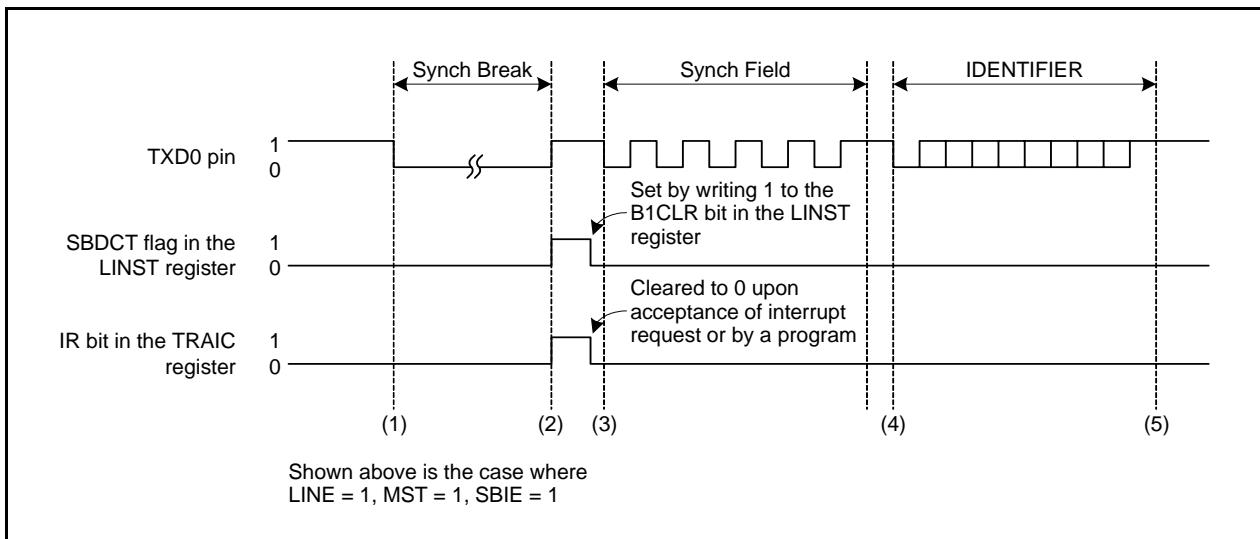
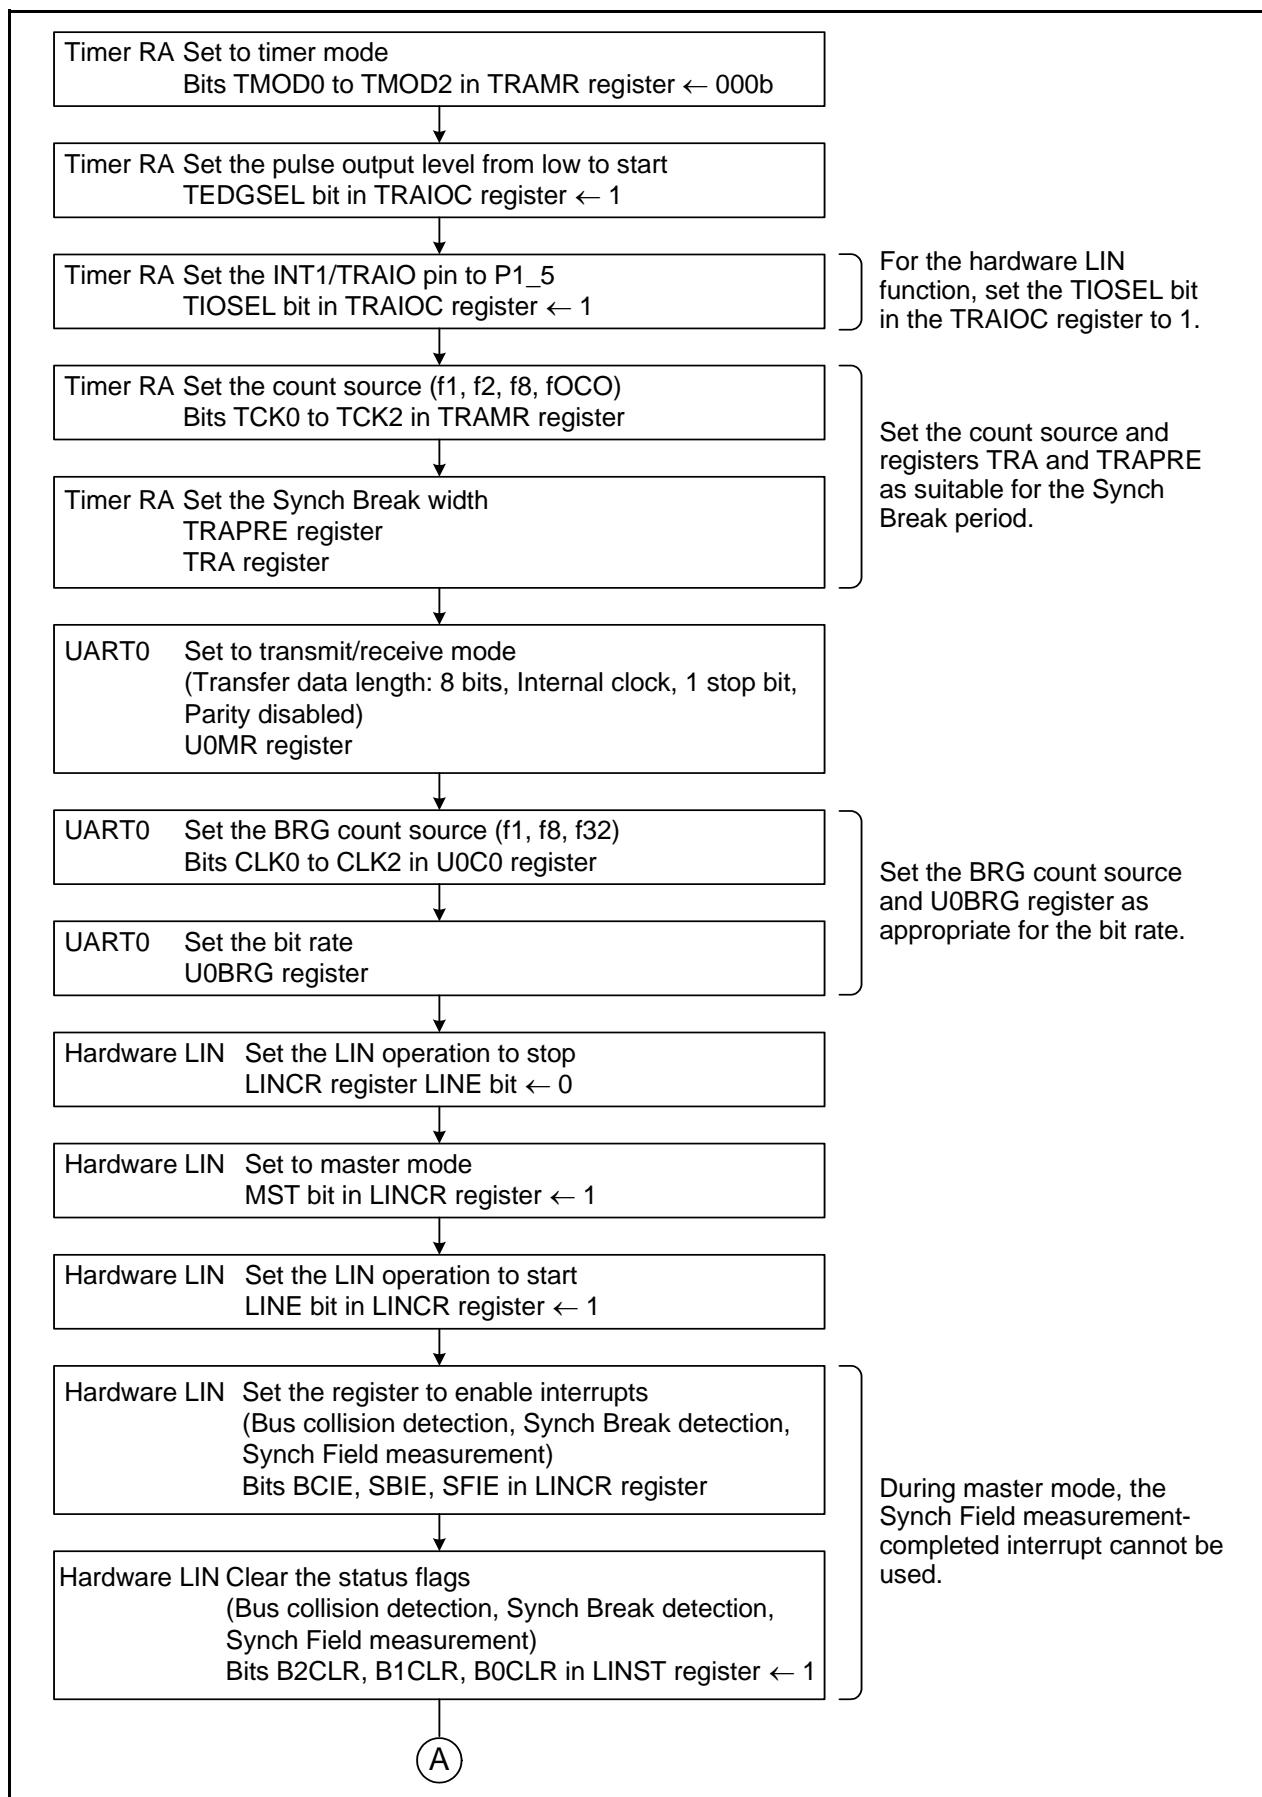
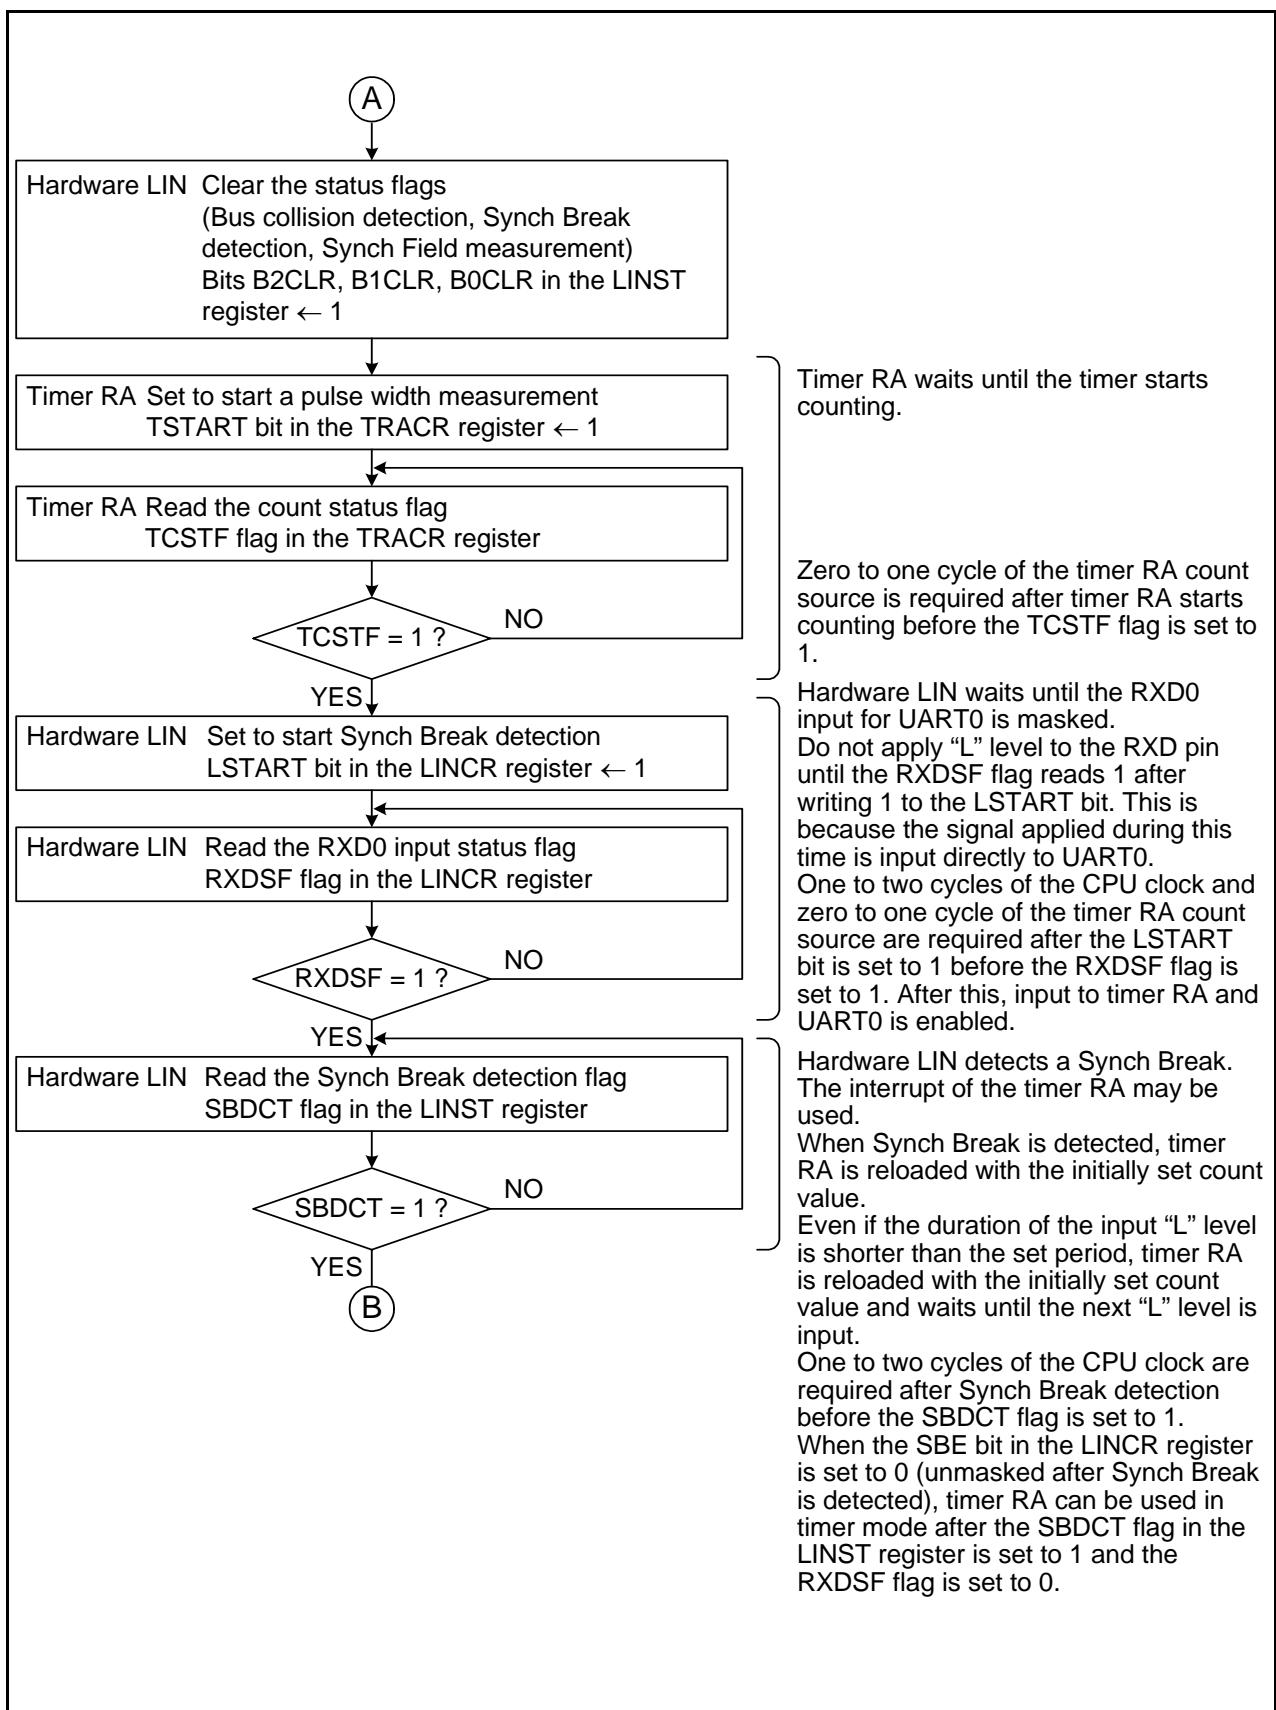

Figure 17.4 Typical Operation when Sending a Header Field
Figure 17.5 Example of Header Field Transmission Flowchart (1)
Figure 17.9 Example of Header Field Reception Flowchart (2)
3. Inputs to timer RA and UART0 are prohibited immediately after this bit is set to 1. (Refer to **Figure 17.5 Example of Header Field Transmission Flowchart (1)** and **Figure 17.9 Example of Header Field Reception Flowchart (2)**.)
Figure 17.4 shows typical operation of the hardware LIN when transmitting a header field in master mode. Figures 17.5 and 17.6 show an Example of Header Field Transmission Flowchart. When transmitting a header field, the hardware LIN operates as described below.